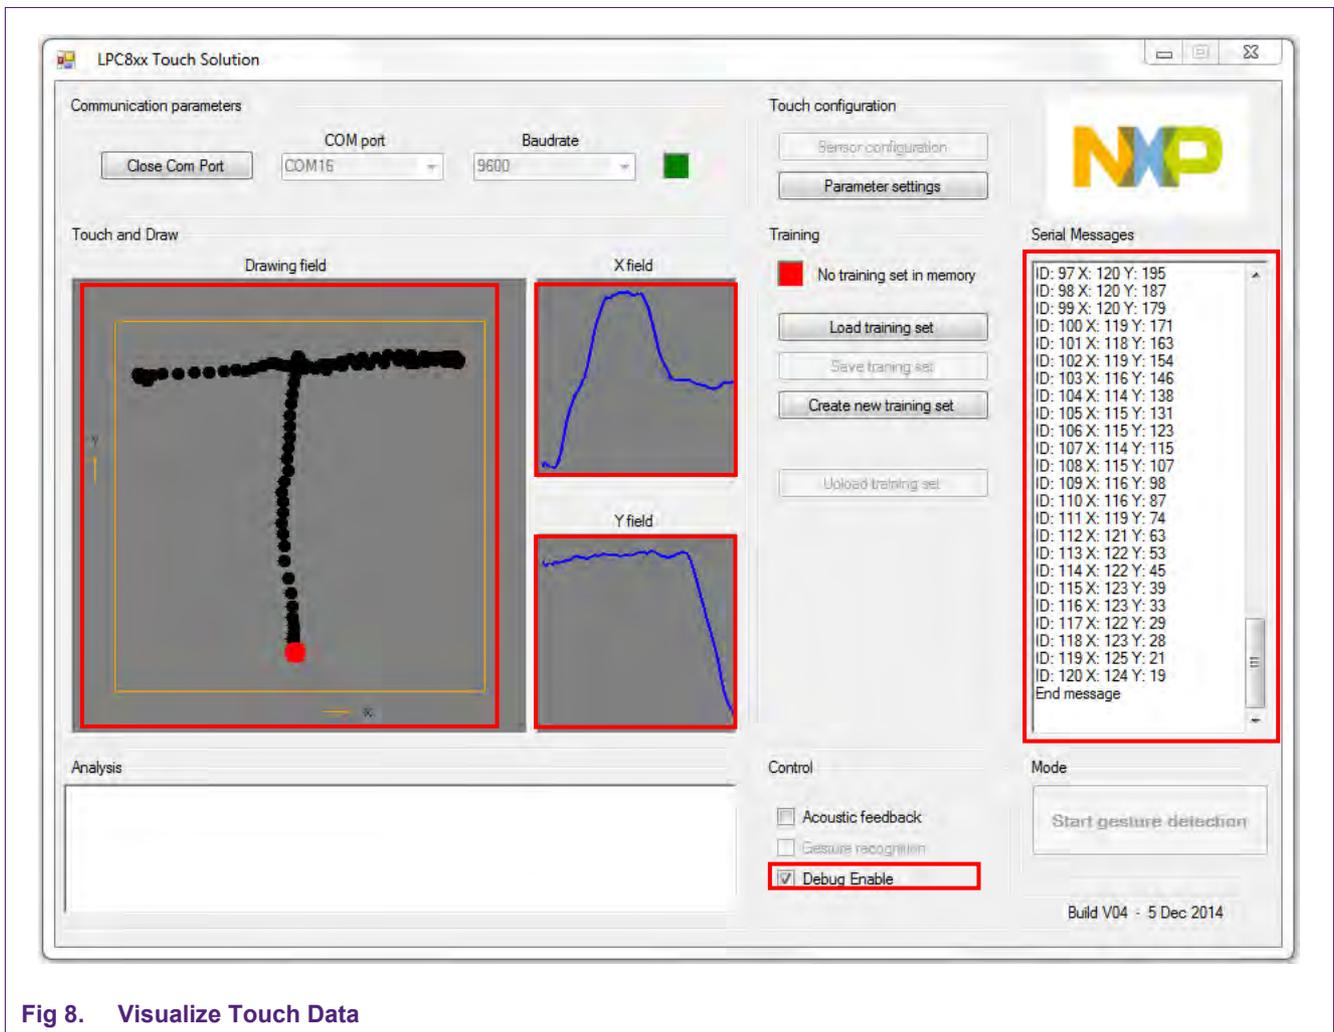

Fig 8. Visualize Touch Data
- On touching the touchpad the Touch positions get reflected in the “Drawing field” of the GUI. See Fig 8.